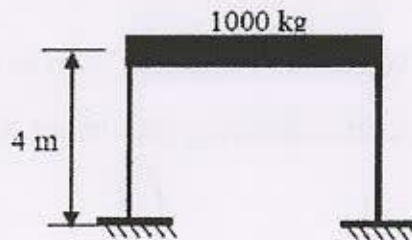

Fig. 1
b) The building frame shown in the Fig.1 is given a 100 mm lateral displacement and released from the rest to vibrate freely. Find the logarithmic decrement and displacement of the system after 12 cycles and comments on the result. Consider 10% damping. Take  $EI_{\text{column}} = 1.1 \times 10^{12} \text{ Nmm}$ . [9]